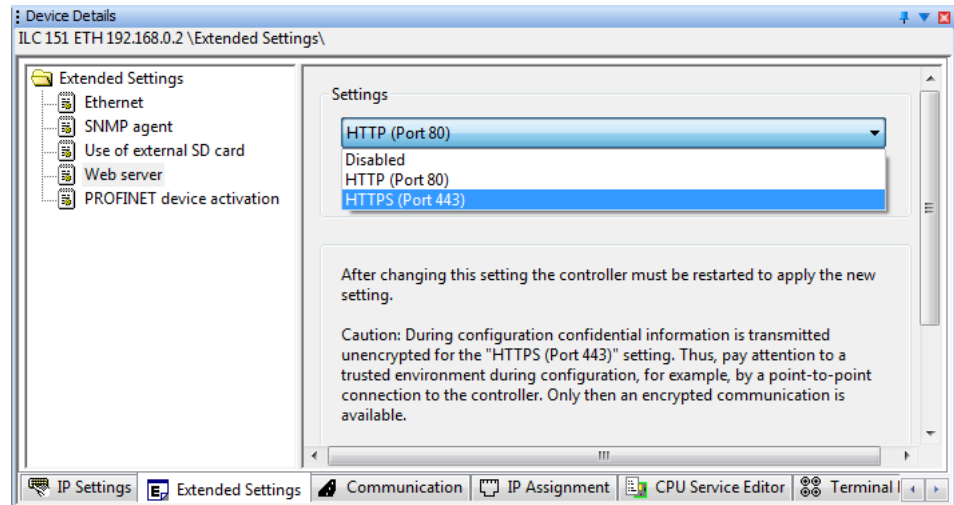

Figure 3-31 Setting HTTPS
- Click “Send” (hidden by the drop-down list in Figure 3-31) to transmit the setting to the Inline controller.